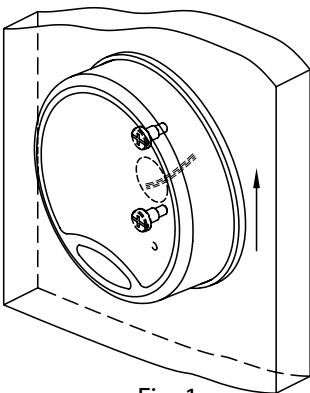

Fig. 1
1. Remove Entry Keypad. Slide it up and carefully pull it away from the safe’s door. (Fig.1)